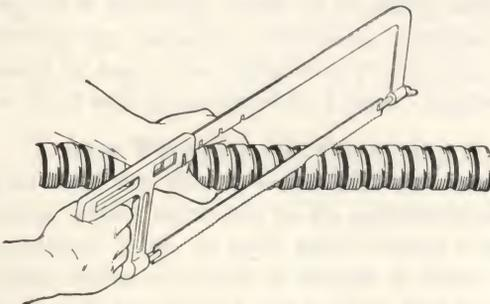

Fig. 10-3. Note the proper angle of the blade in sawing armored cable. Be careful not to damage the wires.
**Cutting Cable:** Use a hacksaw and hold it in the position shown in Fig. 10-3. Note that the blade must be almost at right angles to the strip of